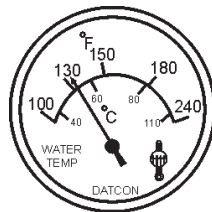

Figure 48. Coolant Temperature Gauge
13. The coolant temperature gauge (Figure 48) will indicate the coolant temperature. Under normal operating conditions the coolant temperature is between 165 and 203 degrees Fahrenheit.